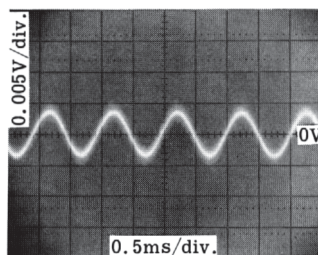

Figure 5-5. Waveform at A5TP1.
- g. Adjust A5R31 OFFSET-1 until dc level of displayed waveform is within  $0\text{mV} \pm 2\text{mV}$ . Refer to Figure 5-5 which shows well-adjusted waveform.